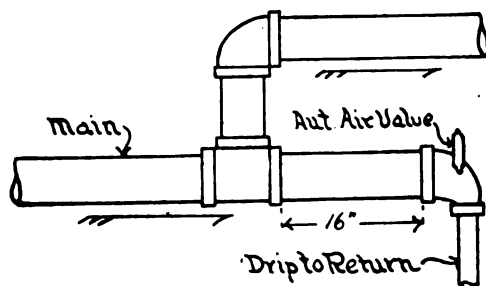

Fig. 26.—Method of Bleeding a Main When Raised to a Higher Level.
A. By a bleeder or drip from the bottom of the low point which should be of sufficient capacity to accommodate the greatest amount of condensation likely to accumulate at such a point, and the bleeder or drip should be connected into a wet return or a return below the water-line of the boiler. Fig. 26.